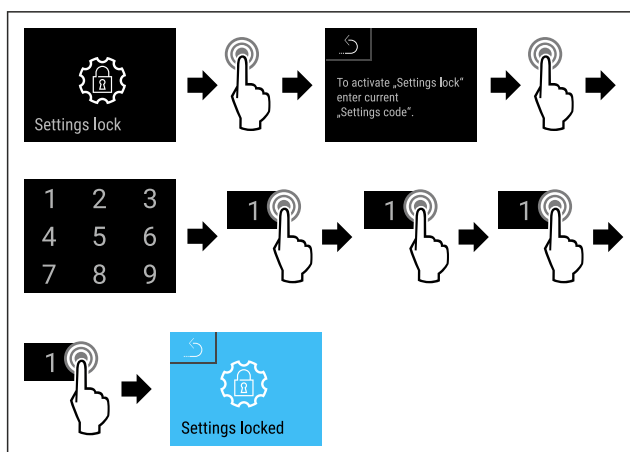

Fig. 98
- ▶ Complete steps (see Fig. 98).